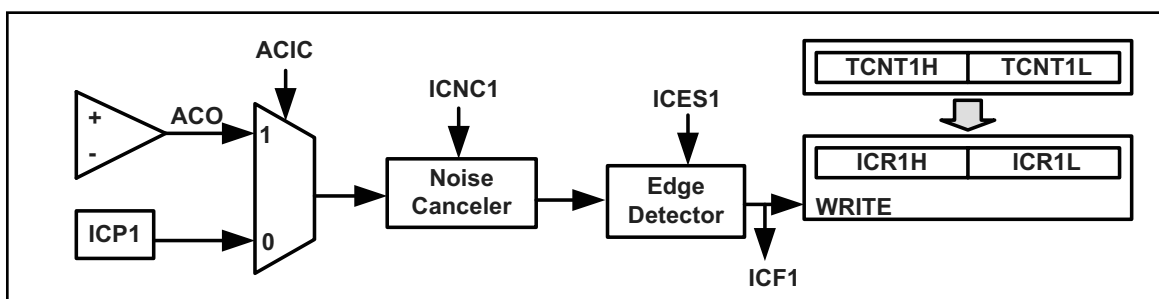

Figure 17. Capturing Circuit
As shown in Figure 17, there are two event sources: (1) the ICP1 pin, which is PORTD.6 in ATmega32, and (2) the output of the analog comparator. We can use the ACIC flag to select the event source. ACIC is a bit of the ACSR register, as shown in Figure 18.
ACO (Analog Comparator Output) The output of the analog comparator is connected to the bit. ACO is read only. See Figure 17.
ACIC (Analog Comparator Input Capture Enable) When the bit is one, the input capture is triggered by the Analog Comparator; otherwise, the ICP1 pin (PD6 in ATmega32) provides the capturing signal. See Figure 17.
As shown in Figures 17 and 19, we use the TCCR1B register to select the type of edge detection and activate/deactivate the noise canceller unit.